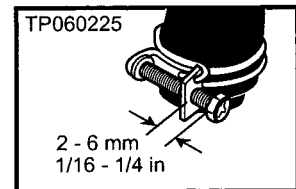

Figure 47a
- Tighten the fuel filler hose clamp at the fuel tank so the distance between the bolt head and metal plate is set to the proper dimension (see Figure 47a).